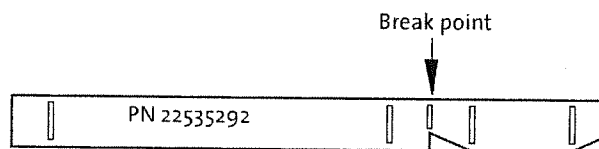

Figure 33. Panel Riser formation.
1. Two Riser Straps are included in the Miscellaneous Hardware Kit. Break each strap into two parts at the point indicated in fig. 33.